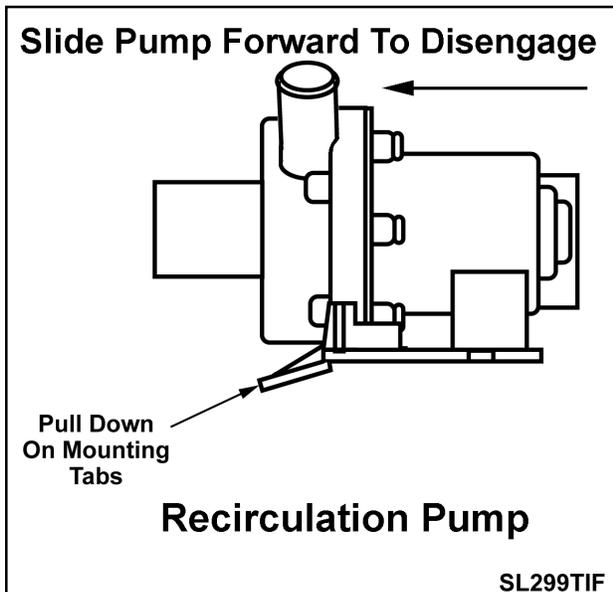

Figure 8-6
- To remove the pump from the mounting bracket, pull down on the mounting tabs and slide the pump off the mounting bracket. (See Figure 8-6)